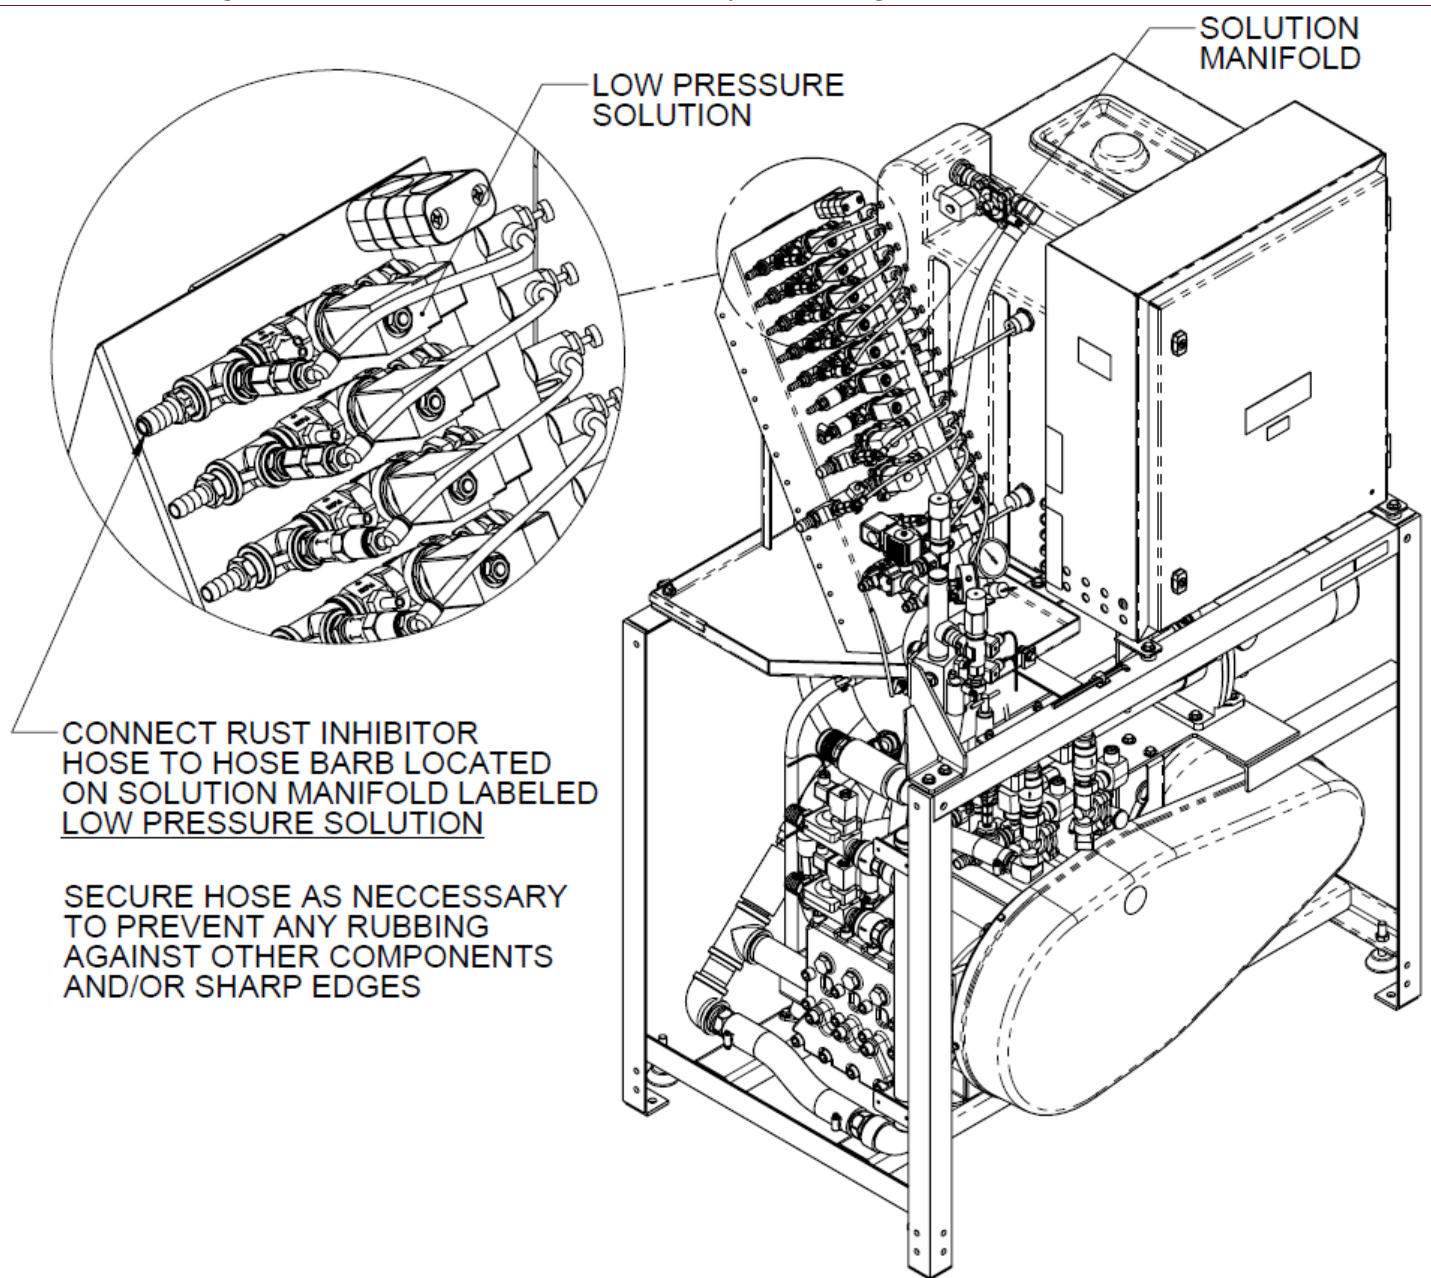

Figure 113 - Rust Inhibitor Hose Connection to Pump Station
- Connect the ½" hose to pump station and secure it with a hose clamp (see Figure 113).